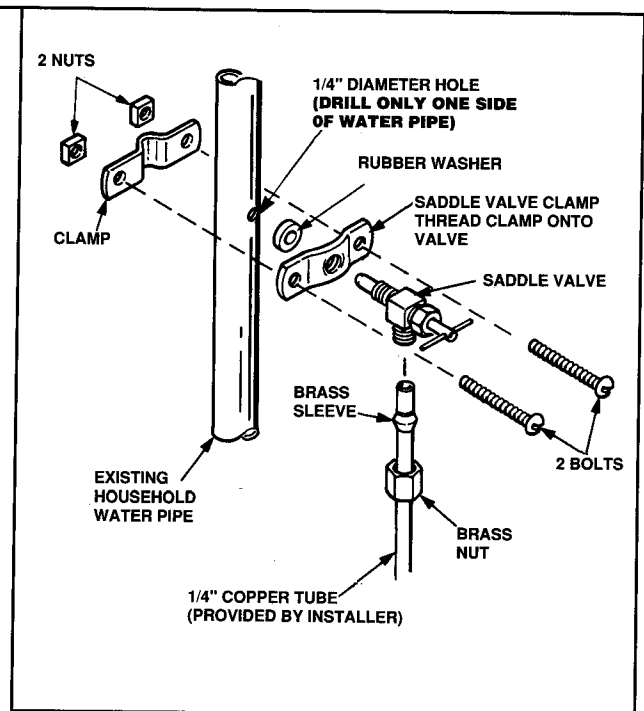

Figure 26
f. Attach saddle valve to water pipe using parts illustrated in Figure 26. Thread valve to saddle valve clamp. Make sure rubber washer is in place between saddle valve clamp and water pipe. Also note saddle valve clamp must be threaded onto saddle valve stem before clamping saddle valve to water pipe. **NOTE: Valve will not thread completely into saddle valve clamp because of tapered threads.** Tighten two attaching screws evenly, in increments so spacing is equal between both sides of clamps. **Do not overtighten.**
g. Slip brass nut and brass sleeve onto 1/4 inch copper tubing as shown in Figure 26.